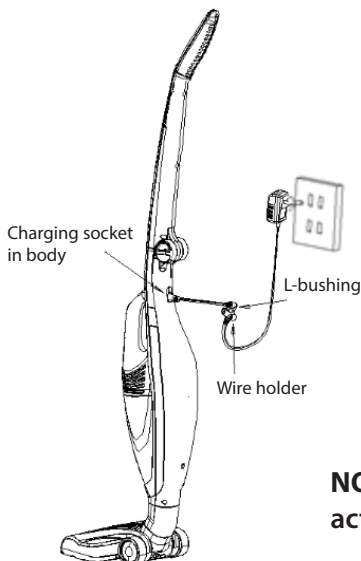

Fig. 12
4. Connect the power adapter plug to the DC jack at the back side of the cleaner main body. And then connect the power adapter to the power supply outlet. The charging circuit will begin to charge the cleaner (see Fig. 12).